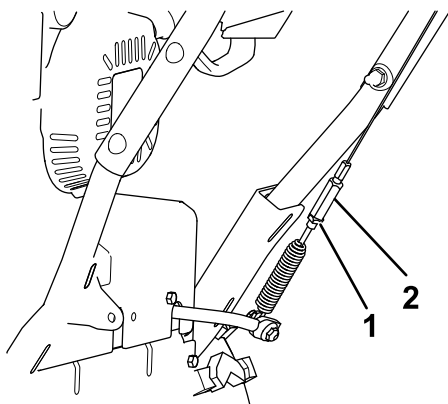

**Figure 29**
3. With the auger/impeller lever disengaged, ensure that the gap between the auger clutch arm and the frame of the machine is 1.5 mm (1/16 inch) as shown in Figure 29.